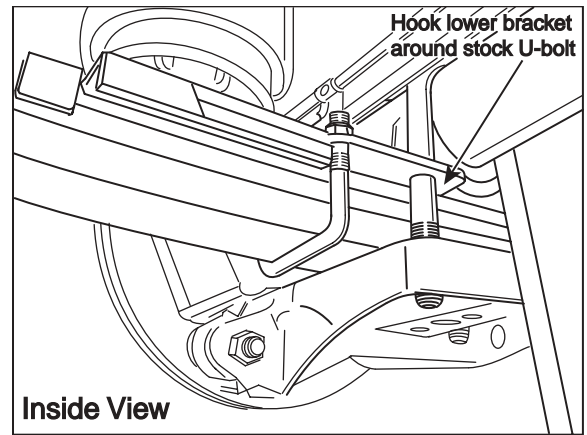

Figure 5
2. Hook the "finger" of the bracket around the inside of the rear u-bolt (Figure 5).
4. Place a  $\frac{5}{16}$ " nut (GG) and a star washer (FF) on the air valve. Leave enough of the inflation valve in front of the nut to extend through the hole and have room for the rubber washer (EE), flat washer (DD), and  $\frac{5}{16}$ " nut (GG) and cap (CC). There should be enough valve exposed after installation - approximately  $\frac{1}{2}$ " - to easily apply a pressure gauge or an air chuck (Figure 5).
5. Push the inflation valve through the hole and use the rubber washer (EE), flat washer (DD), and another  $\frac{5}{16}$ " nut (GG) to secure it in place. Tighten the nuts to secure the assembly in place (Figure 5).
6. Route the air line along the frame to the air fitting on the air spring. Keep at least 6" of clearance between the air line and heat sources, such as the exhaust pipes, muffler, or catalytic converter. Avoid sharp bends and edges. Use the plastic tie straps (BB) to secure the air line to fixed, non-moving points along the chassis. Be sure that the tie straps are tight, but do not pinch the air line. Leave at least 2" of slack to allow for any movement that might pull on the air line.